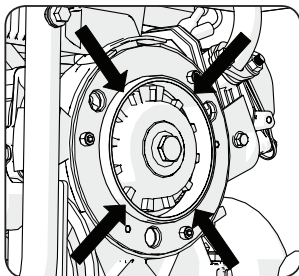

Fig 24
- The male annular ring is located around the engine output shaft. (Fig. 24)